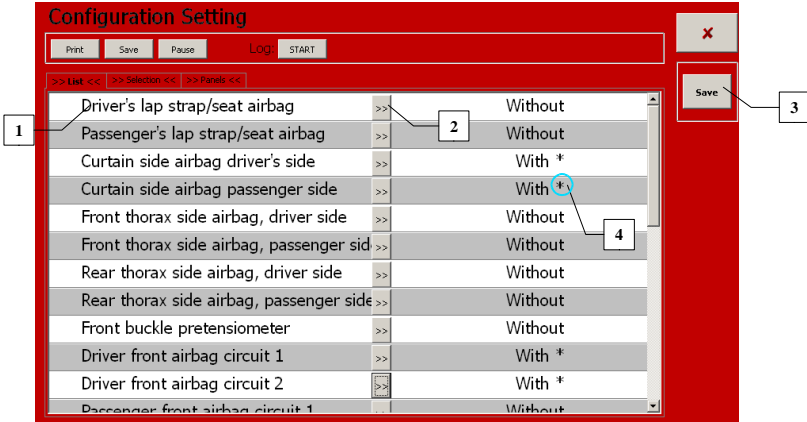

Figure 5.21
Using this function we can change configuration of the airbag system, e.g. to turn on or off individual elements of the system, for example seatbelt pretensioners, passenger airbag, head airbags and so on. An example of such configuration is on *Figure 5.21*. If we choose a parameter, for example (1), we can change its value by pressing the button (2). All changed items are marked by a \* (4). If you want to use these values, press the Save button (3). Now the setting is saved in the control